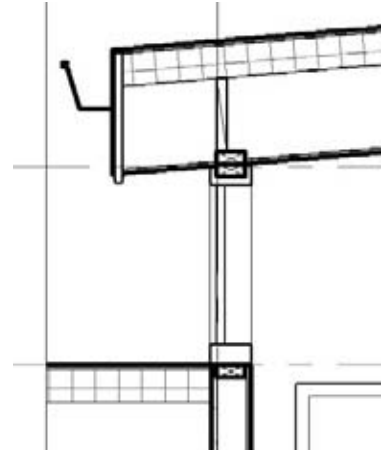

Figure 11.33
5. Using a thin line, draw a line from corner to corner in the box. The finished detail looks like Figure 11.33.